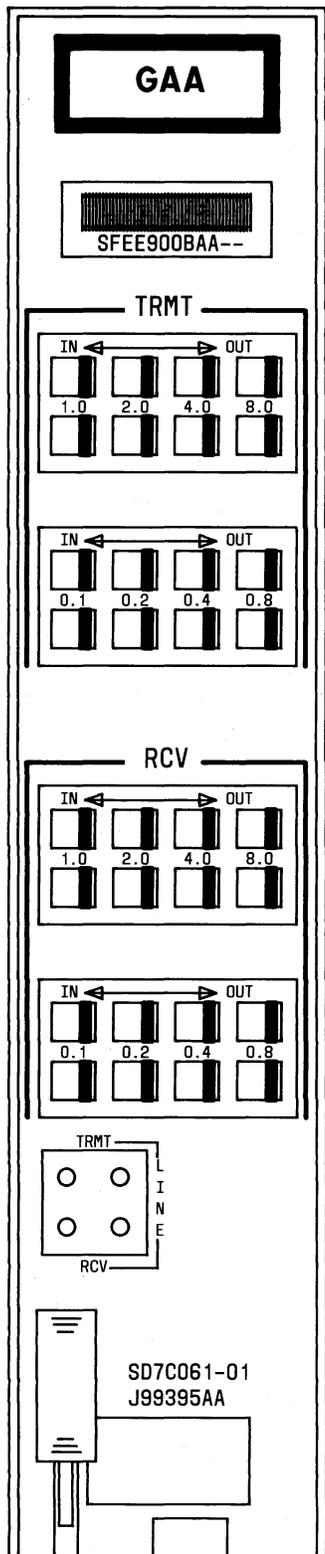

Fig. 9—GAA Unit
7.3 inches high by 10.3 inches long. Most of the circuit components are mounted on a printed board. Table A provides a list of the SF units and corresponding features. The SF units listed in Table A are described briefly in 2.16 through 2.21. Figure 9 shows the faceplate of a GAA unit.